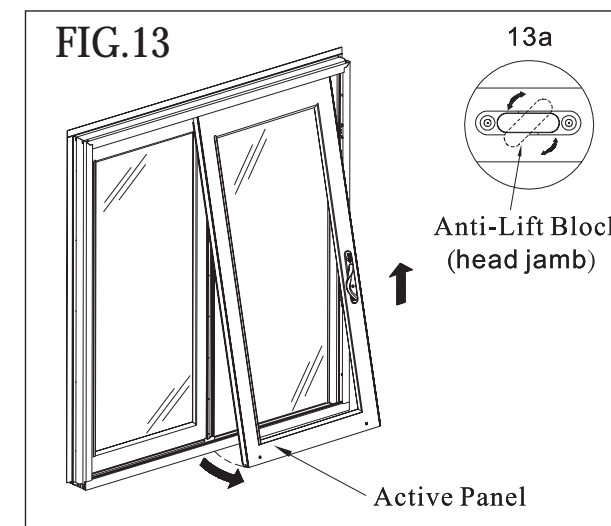
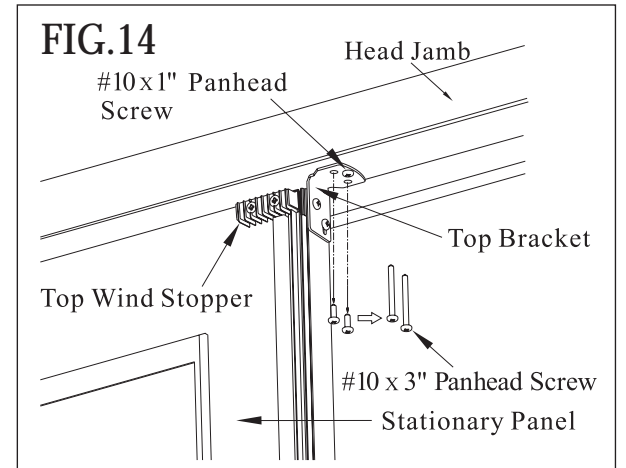

FIG.13
FIG.14
11. Unlock door and open active panel about half the width of the panel, remove active panel by lifting panel up and out from inner side. Make sure the Anti-lift block is parallel to the head jamb. (See Fig.13), replace the two top bracket screws with #10x3" panhead screws. (See Fig.14)